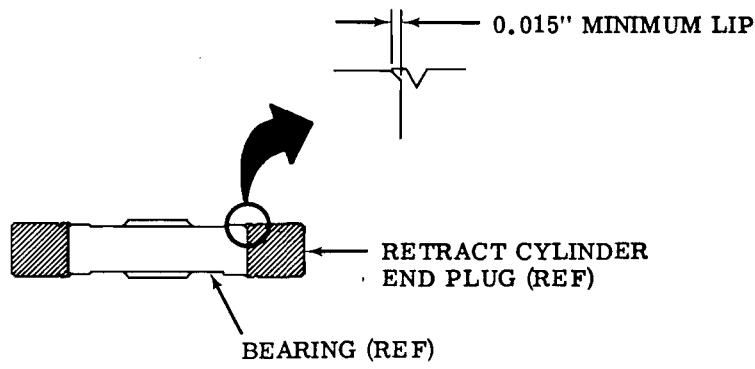

Figure 1.
1. Inspect left and right main landing gear retract cylinder end plug bearings to assure that bearings are properly staked (see Figure 1.).
3. If improper staking is found, remove left and right main landing gear retract cylinders as outlined in the Airplane Maintenance Manual, Section III and hand stake bearings using a 1/8-inch chisel (see Figure 1.).